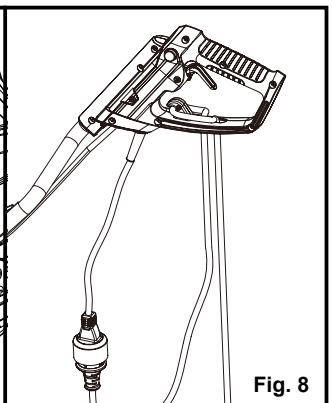

Fig. 8
2. Secure the extension cord into the cord retainer. The loop of the extension cord must be long enough for the cord retainer to freely slide from one side to the other. Plug the extension cord into the power cord plug on the tiller (Fig. 8).